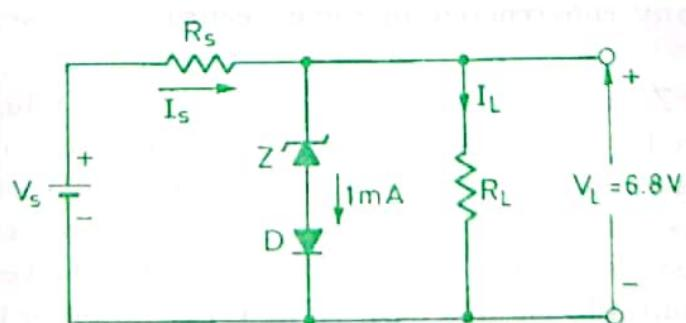

Fig. 3.26. Pertaining to Example 3.13.
**Example 3.13.** Design a Zener voltage regulator, shown in Fig. 3.26, to meet the following specifications :